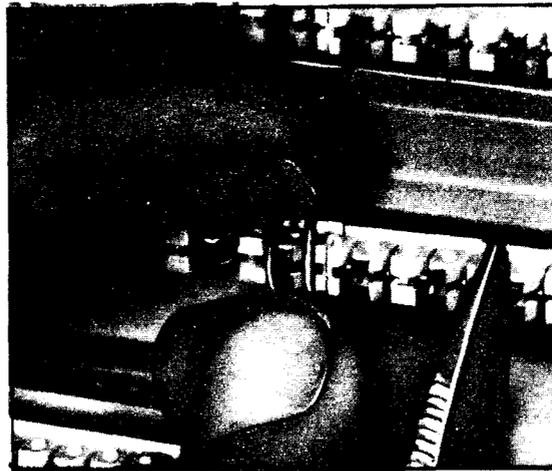
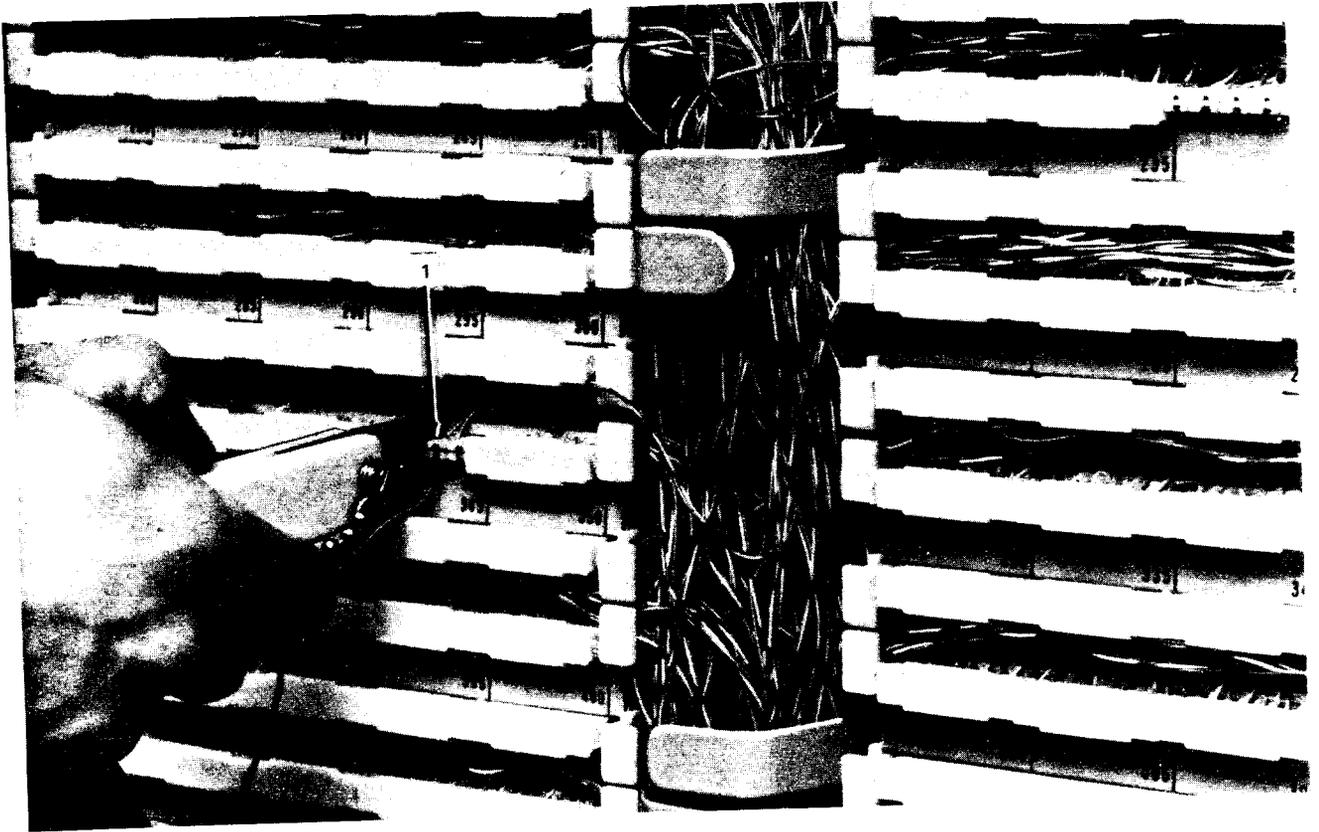

Fig. 5—Terminating Cross-Connecting Wire on Feeder Field
Fig. 7—Terminating Cross-Connecting Wire on Distribution Field
5.02 To reterminate the wire, cut off the old contact portion of the wire and reterminate as outlined Fig. 5 or Fig. 7. If wire is not long enough to leave proper amount of slack, replace wire. *Do not piece out.* Place new waterproof cap as shown in Fig. 8.